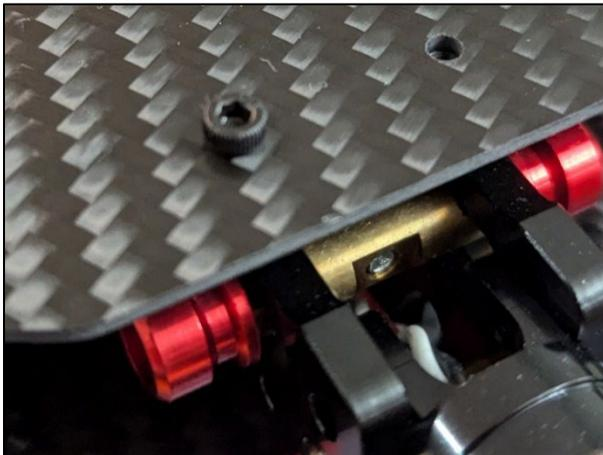

Figure 63 Bolt placement on large top plate
1. Install the top plate using the remaining short bolts (3.C) as shown in **Figure 63**.